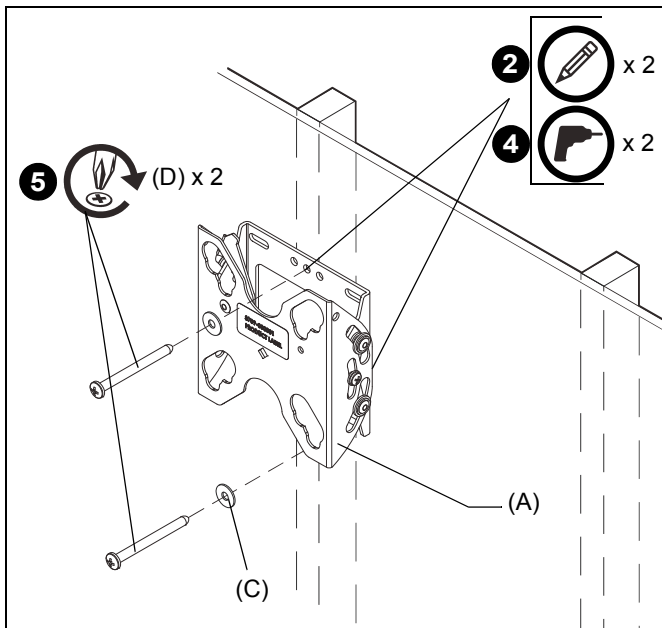

Figure 1
3. Level FTR assembly (A) at desired height and, using it as a template, mark the location of upper and lower pilot holes. Ensure marks are in the center of wood stud.
5. Fasten FTR to wood stud using two #10 x 2-1/2" Phillips head screws (D) through two #10 washers (C), FTR assembly (A), and drywall (not shown) and install into pilot holes. (See Figure 1)